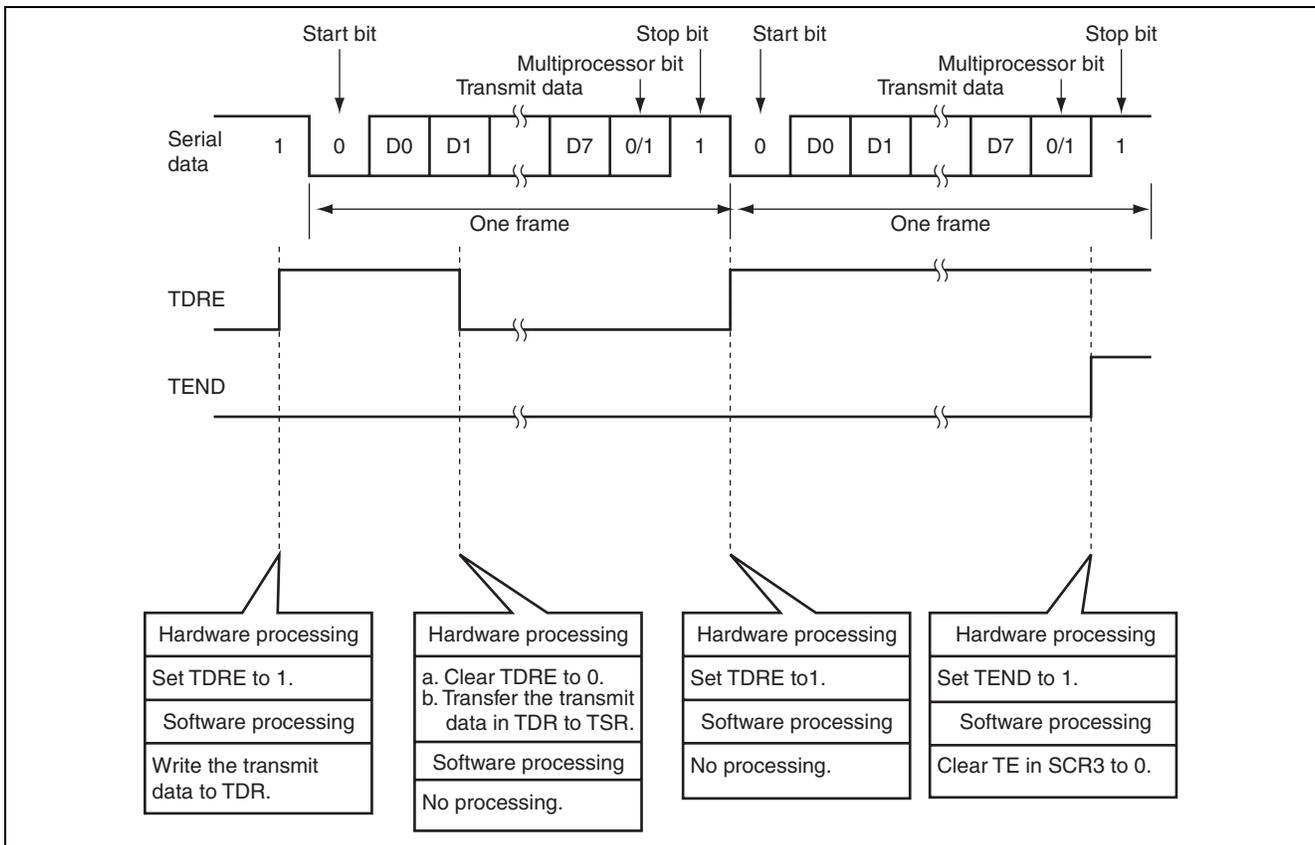

Figure 3.1 Operation Principle of Transmission by Multiprocessor Communication Function
1. Figure 3.1 illustrates the operation of this sample task. Data transmission is performed by the multiprocessor communication function through hardware and software processing as shown in figure 3.1.